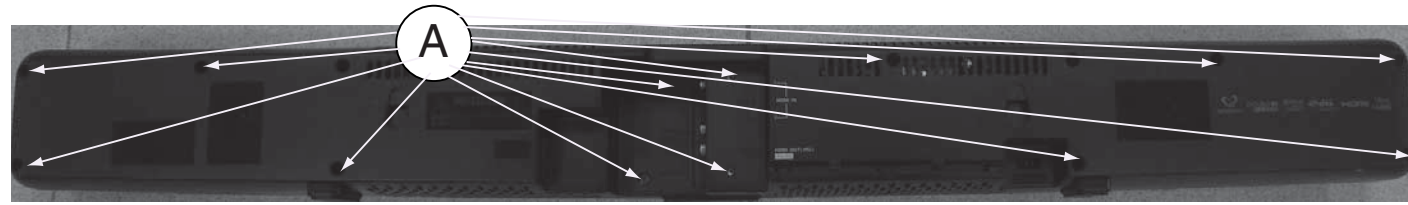

Figure 1
1) Loosen 13 screws "A" to move the Rear Cover as shown in figure 1.